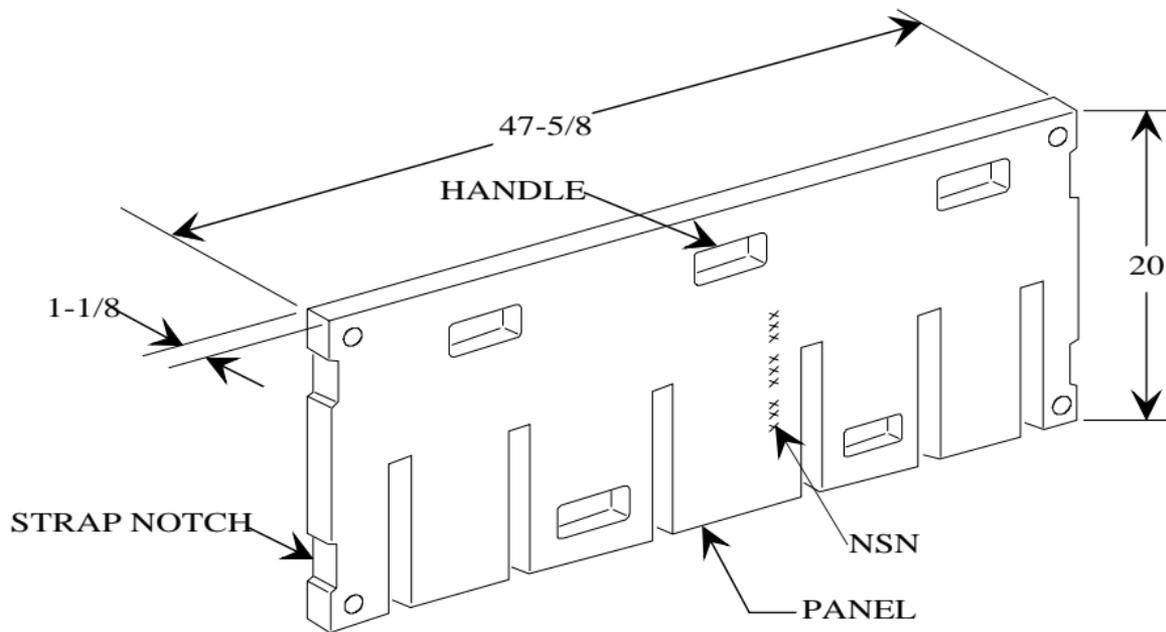

Figure 4.
b. Fourteen panels make up the LRRS configuration. Each panel has seven “mating slots”, is 47-5/8 in. x 1-1/8 in. (121.0 cm x 2.9 cm), and weighs approximately 7.0 lb (3.2 kg). Each panel has four strap notches and “handles” to permit easy lifting. Figure 4 shows a LRRS panel makeup.